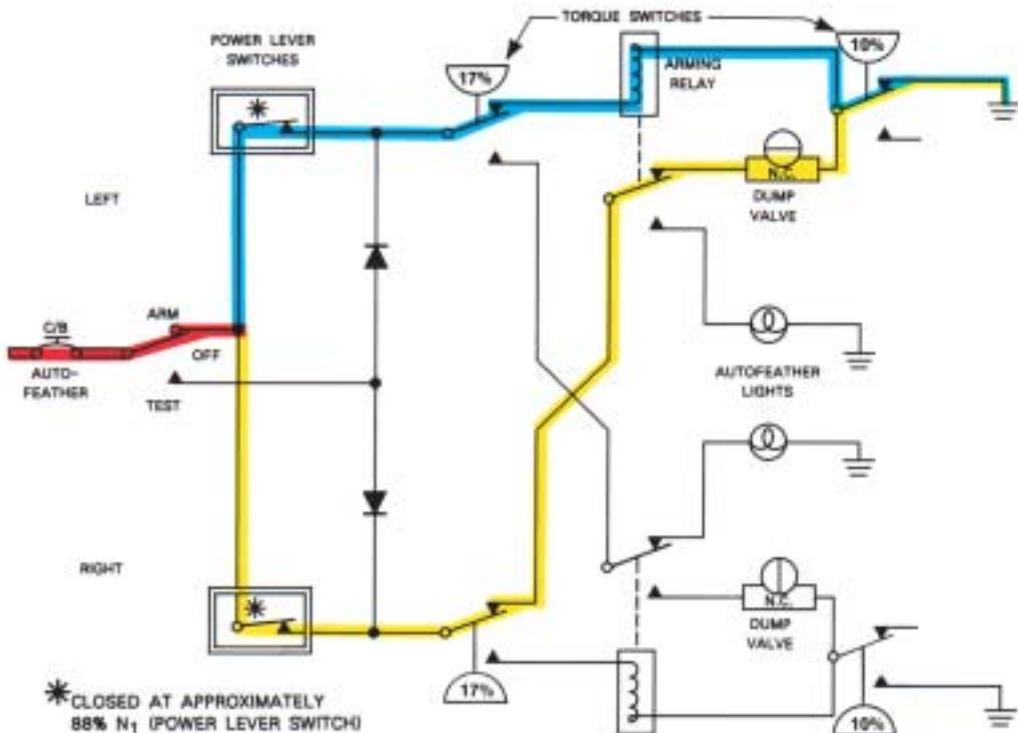

Figure 7-46 Autofeather Diagram—Left Engine Failure Armed
2. When an engine failure is simulated with a power lever (Figure 7-46), the associated autofeather annunciator will flash off and on when the power lever is pulled to IDLE, because there is still idle power.